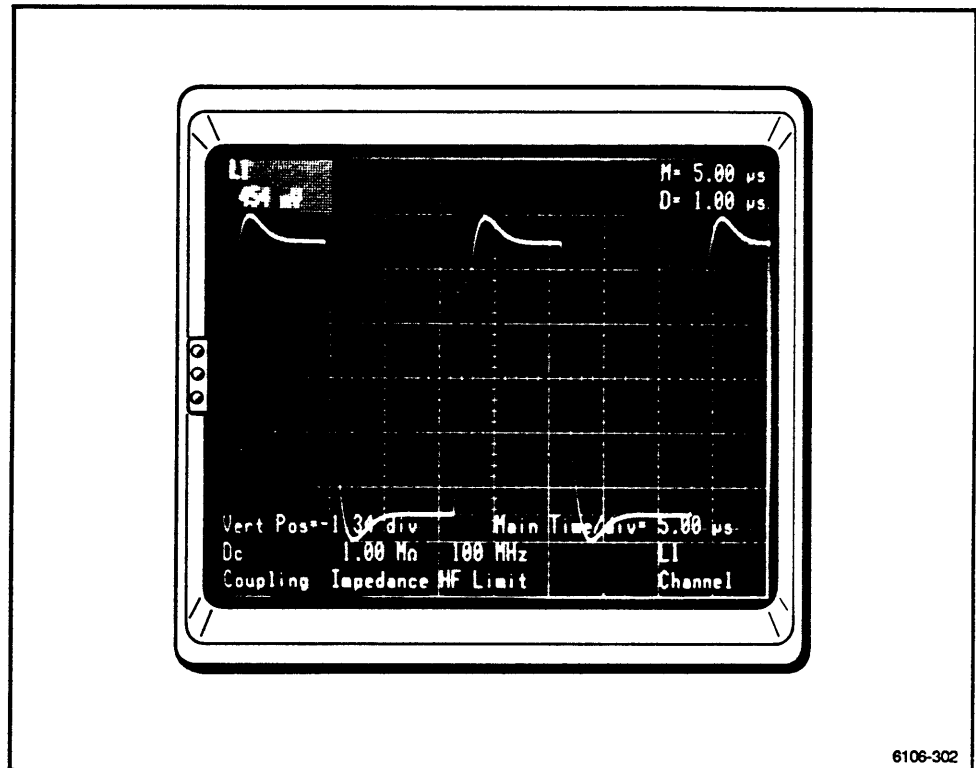

Figure 2-103. Setting VERTICAL SIZE and POSition.
2. Using the VERTICAL SIZE with the FINE control, adjust the trace such that the top (100% point or plateau) value and the bottom (0% point or baseline) value (not the Min or Max) are 5 divisions apart. (See Fig. 2-103.)